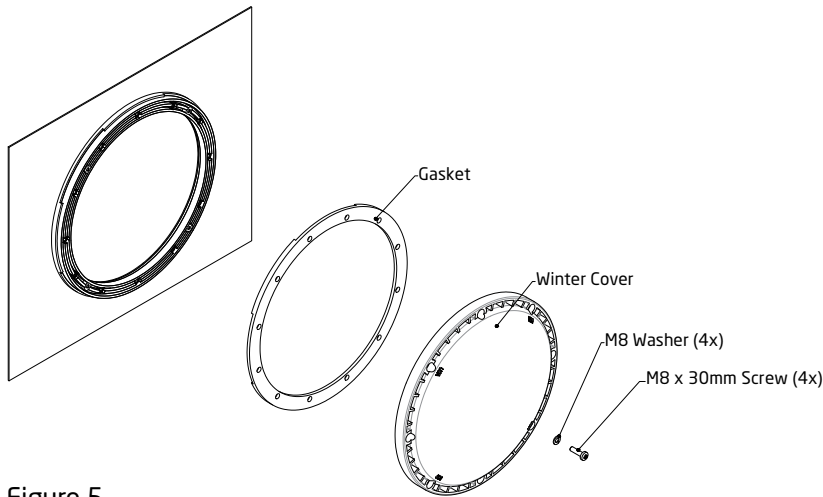

Figure 5
In areas subject to freezing water temperatures, you should protect your equipment. We recommend you purchase a winter cover kit part #2326000010K. This kit includes one (1) winter plate, one (1) gasket, four (4) M8 washers, and four (4) M8 x 30mm screws. (See Figure 5) Please contact your local pool professional for installation.